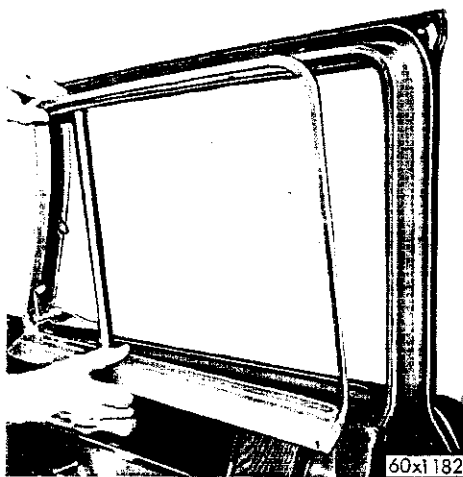

Fig. 43—Removing Garnish Moulding
(1) Remove the garnish moulding (Fig. 43) arm rest and remove the control handles.